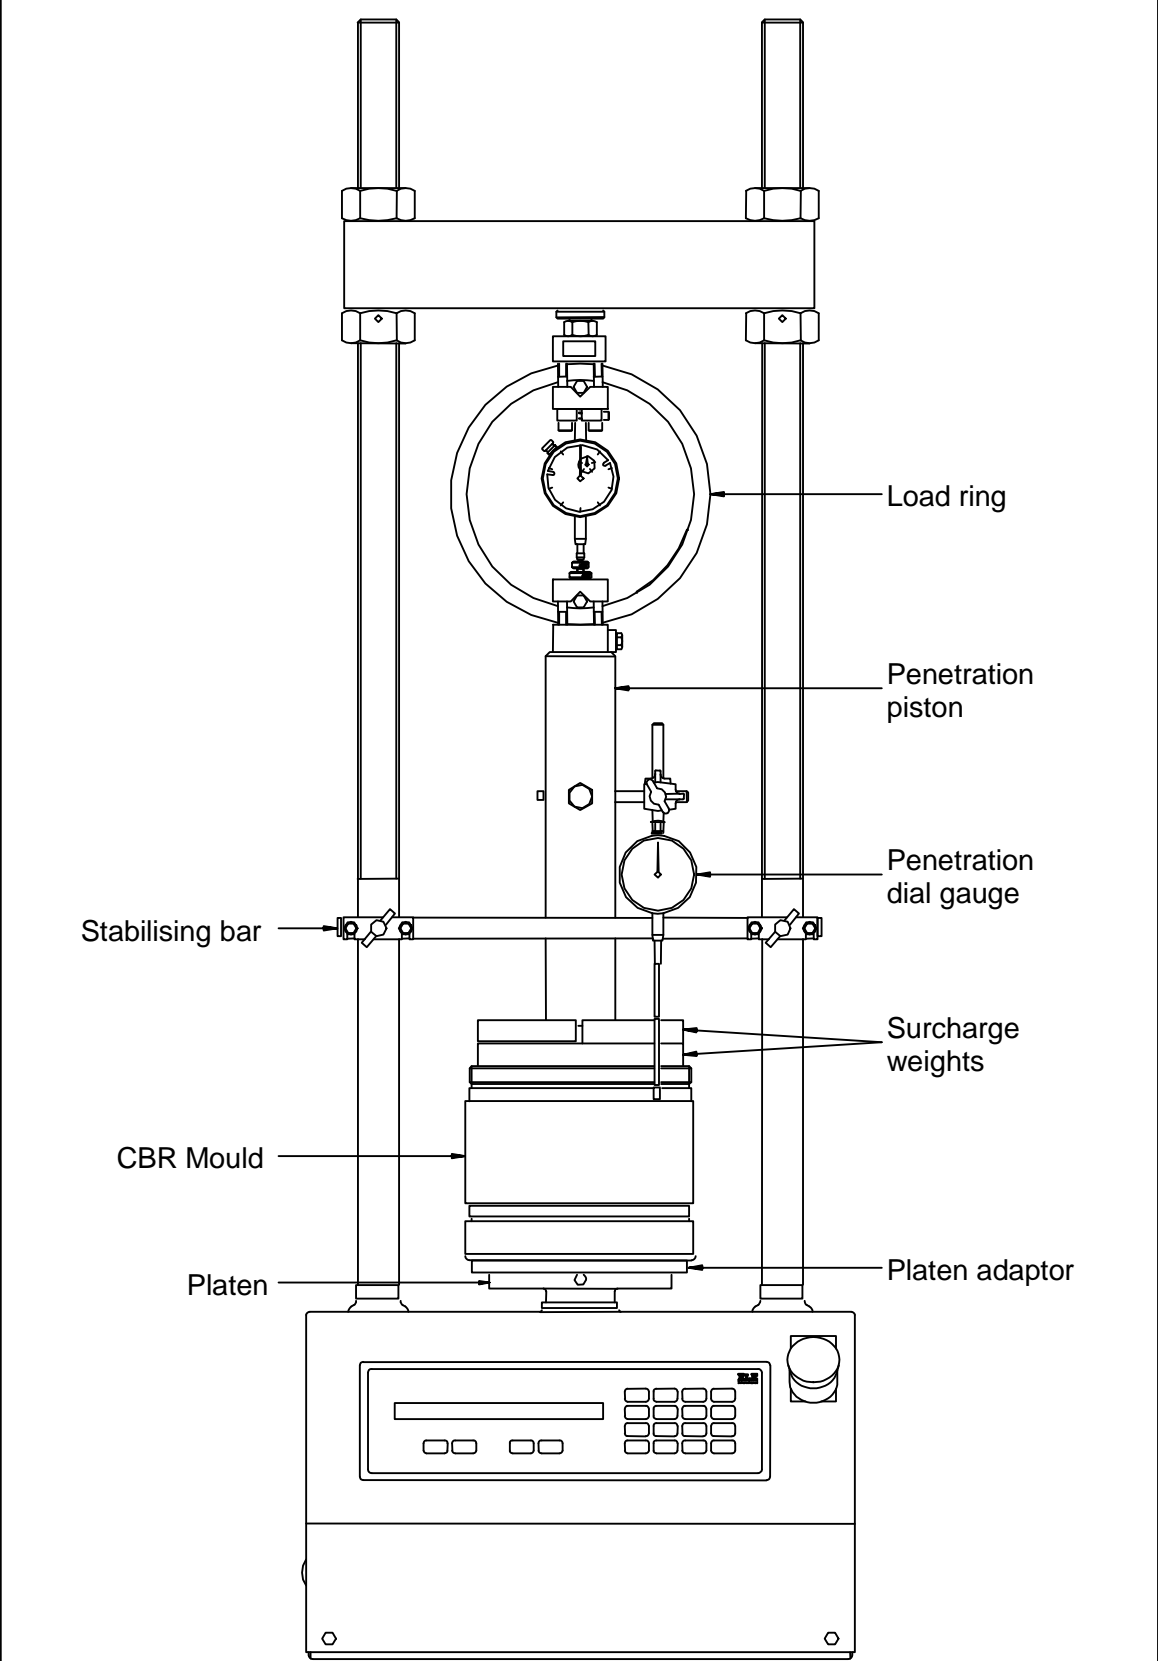

Figure 3. Typical CBR test set up
- 5.2 A typical set up for carrying out a CBR penetration test is shown in figure 3.